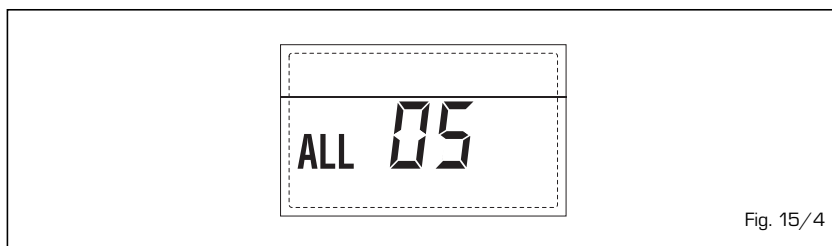

Fig. 15/4
– **BLOQUEO LLAMA “ALL 06” (fig. 15/5)**